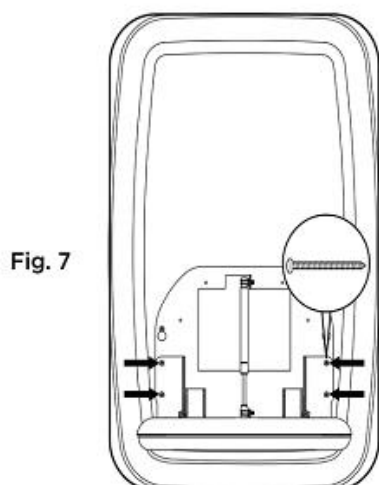

Fig. 7
- Secure the unit through the remaining mounting holes with the provided mounting screws. **Fig. 7**